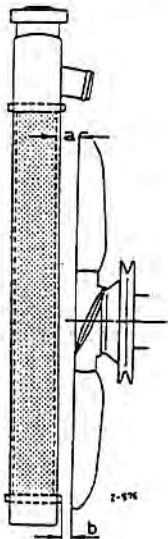

Fig. 50-1/9
- Attach the hose clamps for the cooling water hoses and on Model 230 SL attach the bleeder hose (5) (Fig. 50-1/4).